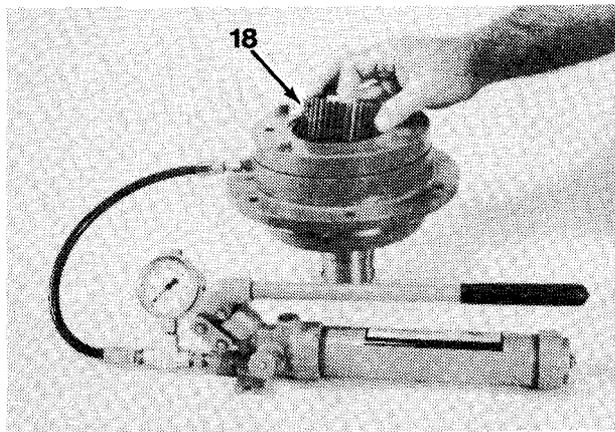

Figure 16-18
5. While pressure is applied and brake is released, install brake clutch assembly (18, Figure 16-18) in brake stack. Turn brake clutch assembly (18) in both directions, alternately, while installing in order to align brake disc splines.
7. Remove brake clutch assembly (18, Figure 16-18).